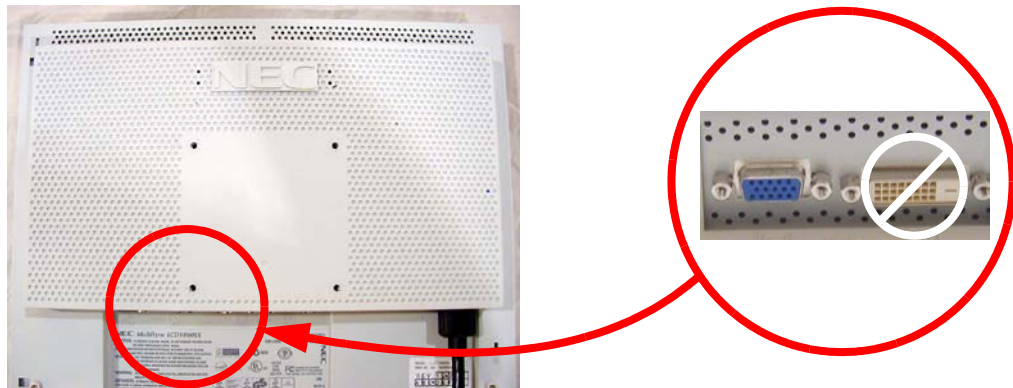

Figure 3-3 Image Monitor (with Video Connector at right)
- 2.) With the monitor and computer switched off, remove the video cable from the back of the image monitor. See Figure 3-3. (This is the cable that comes from the HP or Octane.) Remove this cable from the Octane or HP computer video connector. Discard this cable. If the monitor has BNC connectors, remove them.
- 3.) **For the HP computer**, add the DV1-to-HD15 adapter to cable 2403438 and connect to the HP video 1 port. See Figure 3-3